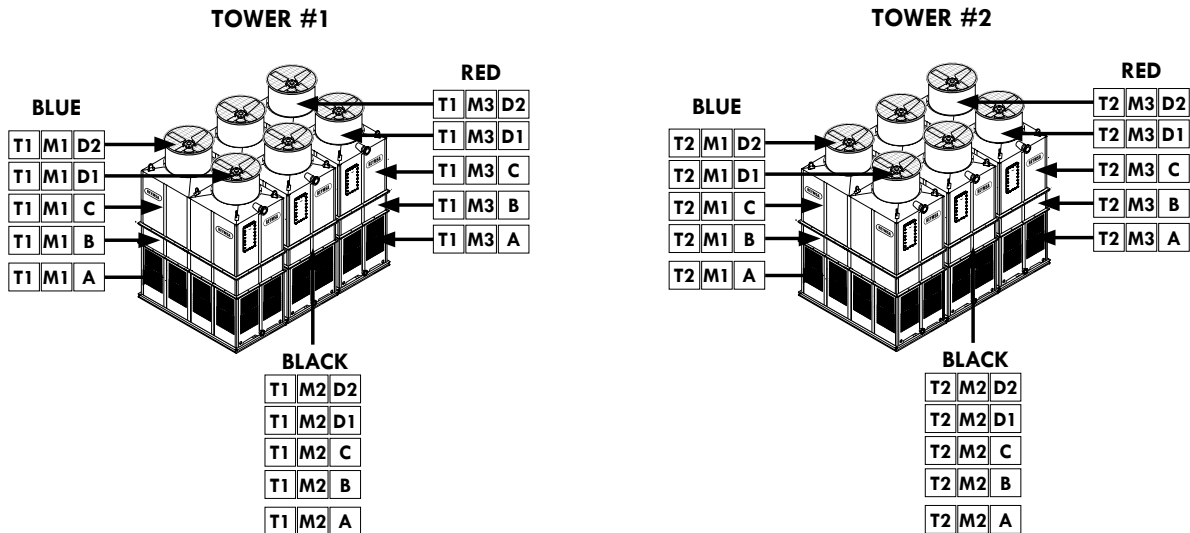

Figure AP-12: Color code for multiple tower assembly.
E. Modular Towers, each module will be identified with the letter “**M**” followed by the module number, and a letter that corresponds to the vertical position of that section, for example: **M1A, M1B, M1C, M2A, M2B**, etc. See Figure AP-12